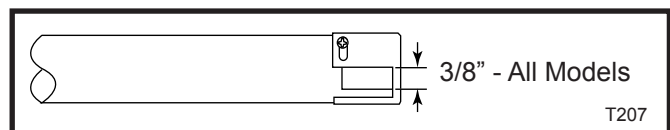

Fig. 43 Air shutter settings for propane/LP gas.
7. Set the air shutter opening for propane/LP gas. (Refer to Figure 43 and Chart on Page 30) Tighten air shutter screw.